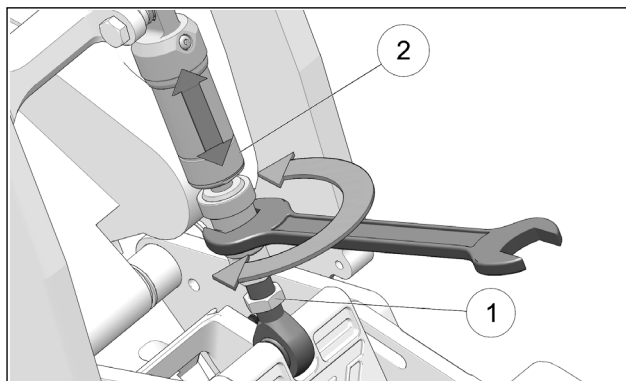

Figure 33
- One complete **counterclockwise** rotation of the Soft Strut shortens it by **0.050"** (1,27 mm). The rear measurement (Y) will then increase **0.050"** per rotation.
- One complete **clockwise** rotation of the Soft Strut lengthens it by **0.050"** (1,27 mm). The front measurement (X) will then increase **0.050"** per rotation.
- Loosen the rod end lock nut (1). Adjust length of rod end by rotating the Soft Strut (2) using a 31-mm wrench. See Figure 33.